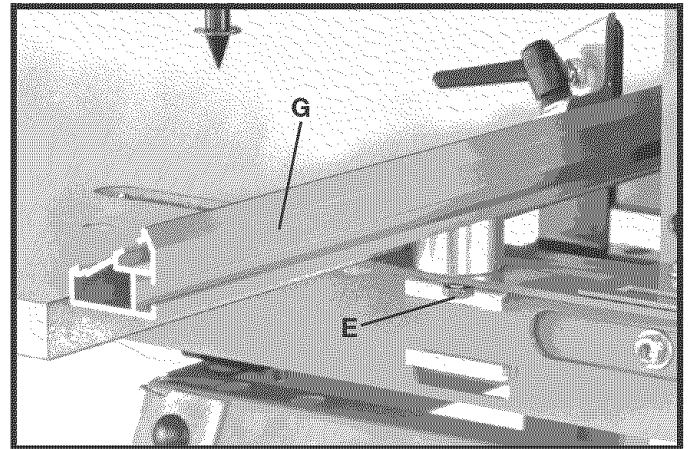
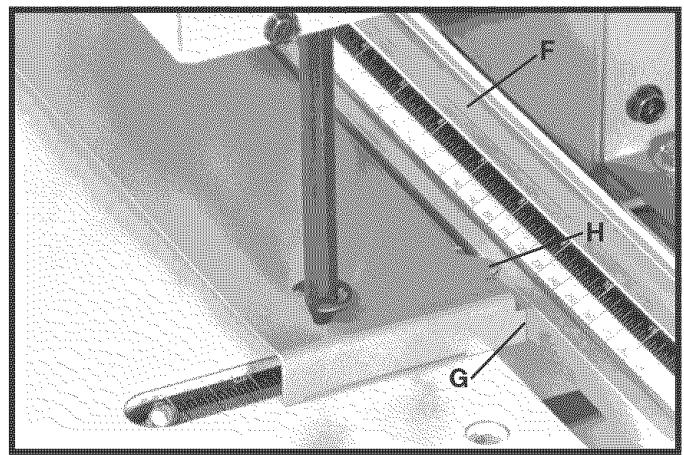

Fig. 15
Fig. 19
4. Figure 15 illustrates the fence (G) assembled to the table bracket. **NOTE: DO NOT COMPLETELY TIGHTEN THE TWO SCREWS, ONE OF WHICH IS SHOWN AT (E), AT THIS TIME.**
6. Loosen the two screws (E) Fig. 15, that fasten fence (F) Fig. 19, to the machine and move fence (F) until front surface of fence contacts gage at point (G) as shown, at each end of the gage. Move the fence left or right until the right fence stop, that was set in **STEP 1**, contacts the gage at point (H). Then tighten the fence mounting hardware. **NOTE: FENCE STOP IS NOT SHOWN FOR CLARITY.**